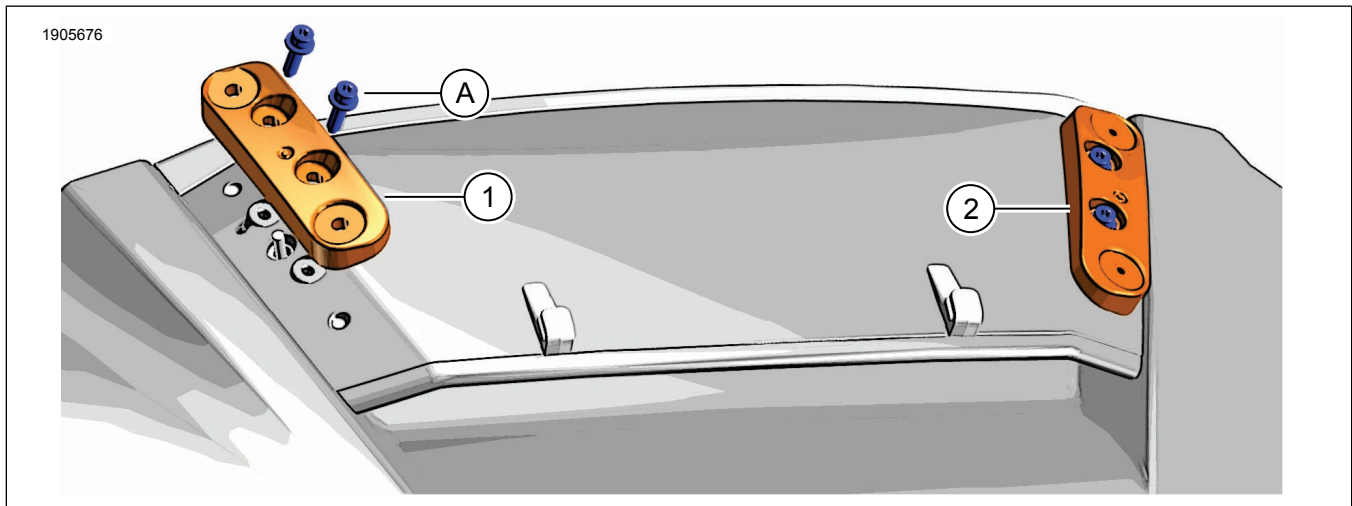

Figure 1. Kit Contents: Short Mount Windshield Mount
3. Figure 1 Secure right and left mounting blocks (1,2) with OE screws (A). Tighten.